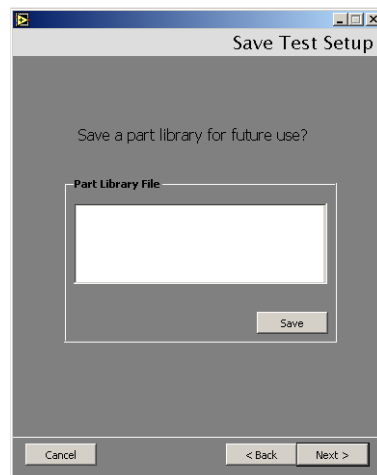

Figure 2-33 Save Test Setup
13. Click **Next** and Figure 2-33 appears.
15. Navigate to the required directory and select a file and click **Save**. Figure 2-33 reappears with the file name and path populated into the *Part Library File* field.